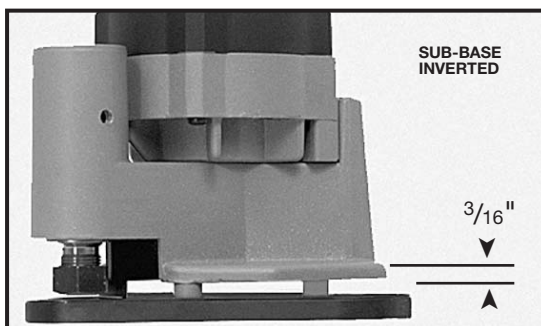

Fig. 12
4. When using long shank bits: The distance from the bottom of the sub-base to the collet may be increased (approximately  $\frac{3}{16}$ " ) by turning the sub-base over (See Fig. 12):